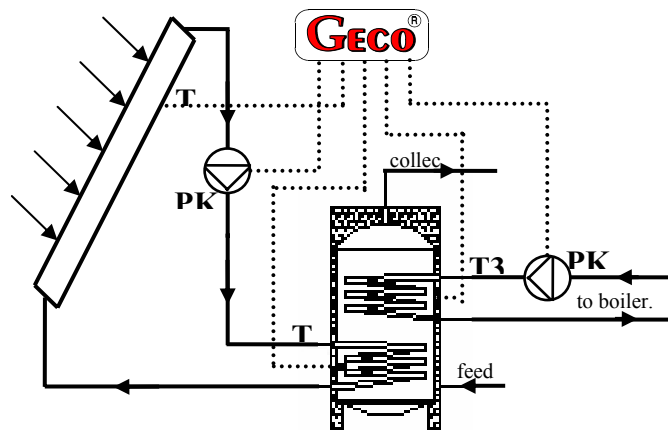

Fig.2
- '2': a version with one collector and operation of a pump for the central heating boiler. (fig.2),